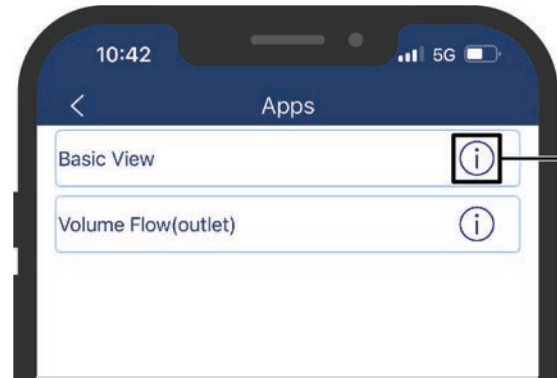

Figure 4
**Note:** The Volume Flow application view only applies to the REED R1600. (Figure 4) (See *Appendix A* for R1600 Setup Instructions.)